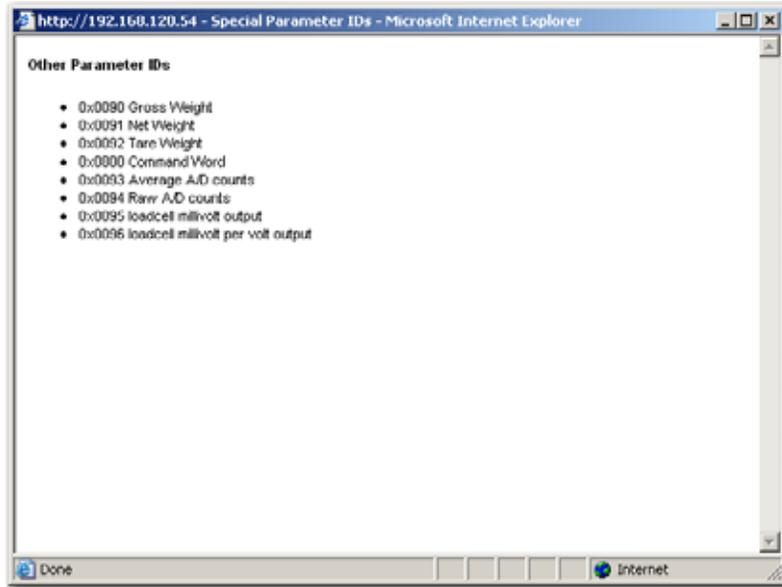

FIG. 415 COMMAND INTERFACE PARAMETER IDS
- Step 6. To view the Command Interface Parameter IDs click on “Other Parameter IDs” above the Parameter list. (See Fig. 415)